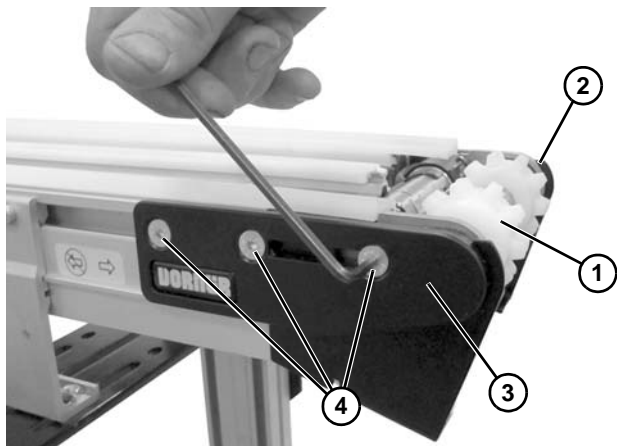

Figure 73
1. Install drive spindle (**Figure 73, item 1**) into head plate (**Figure 73, item 2**). Install head plate (**Figure 73, item 3**) and install screws (**Figure 73, item 4**).